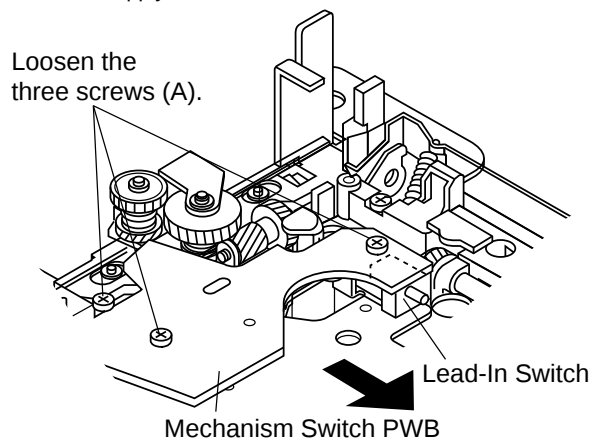

Figure 19
1. Loosen the screw (A) x 3 pcs. which fix the mechanism switch PWB.
After position adjustment fix with the three screws (A). (See Fig. 19.)